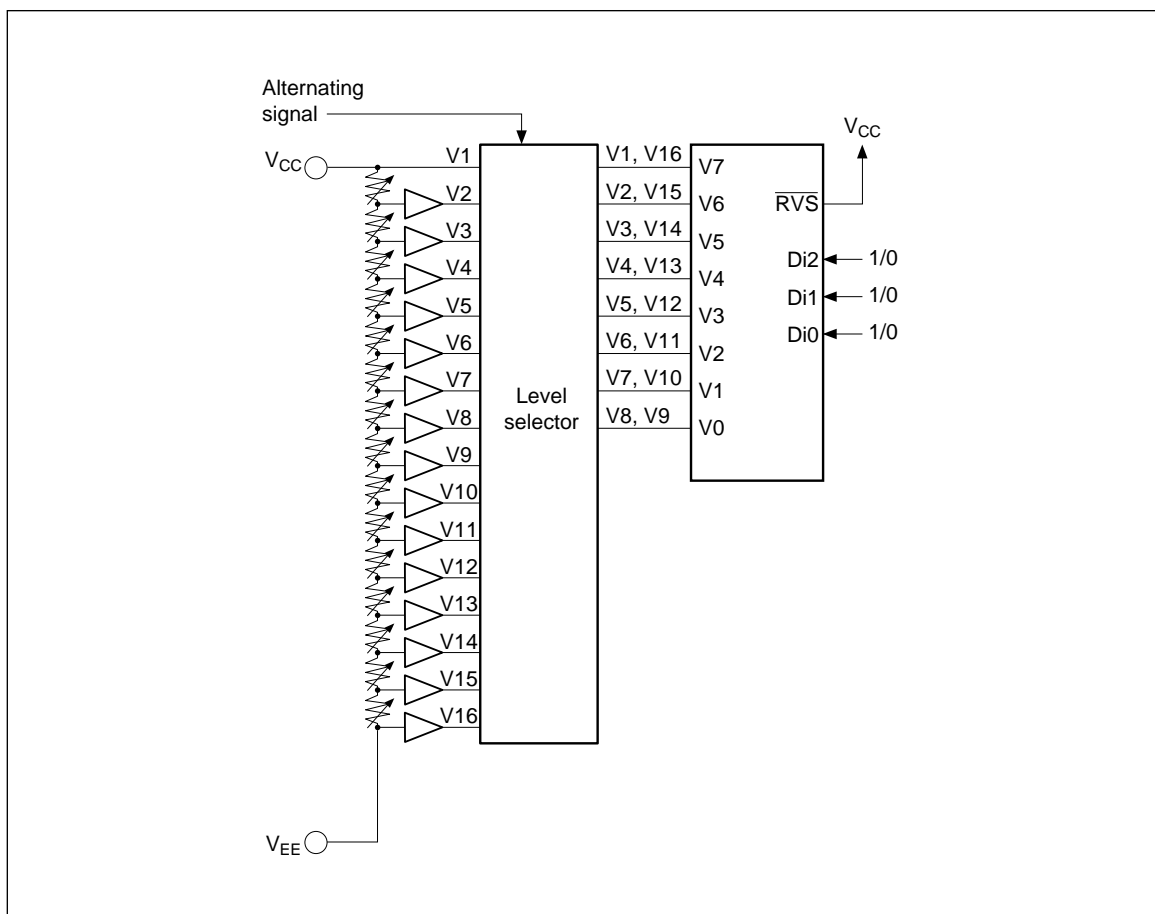
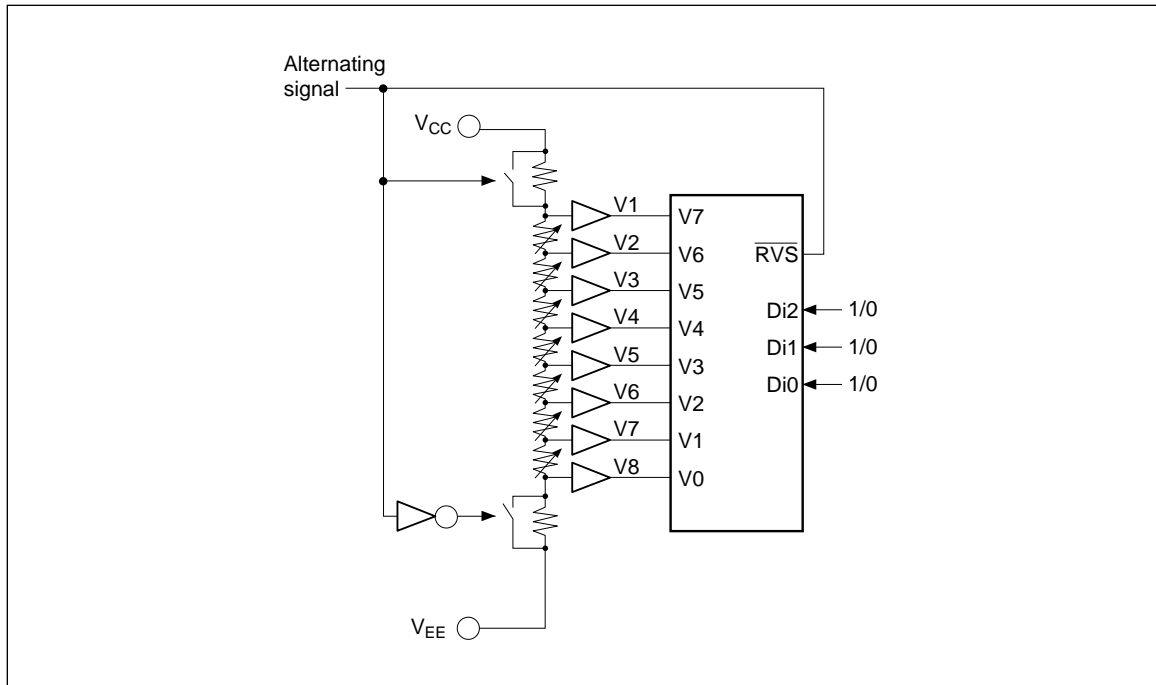
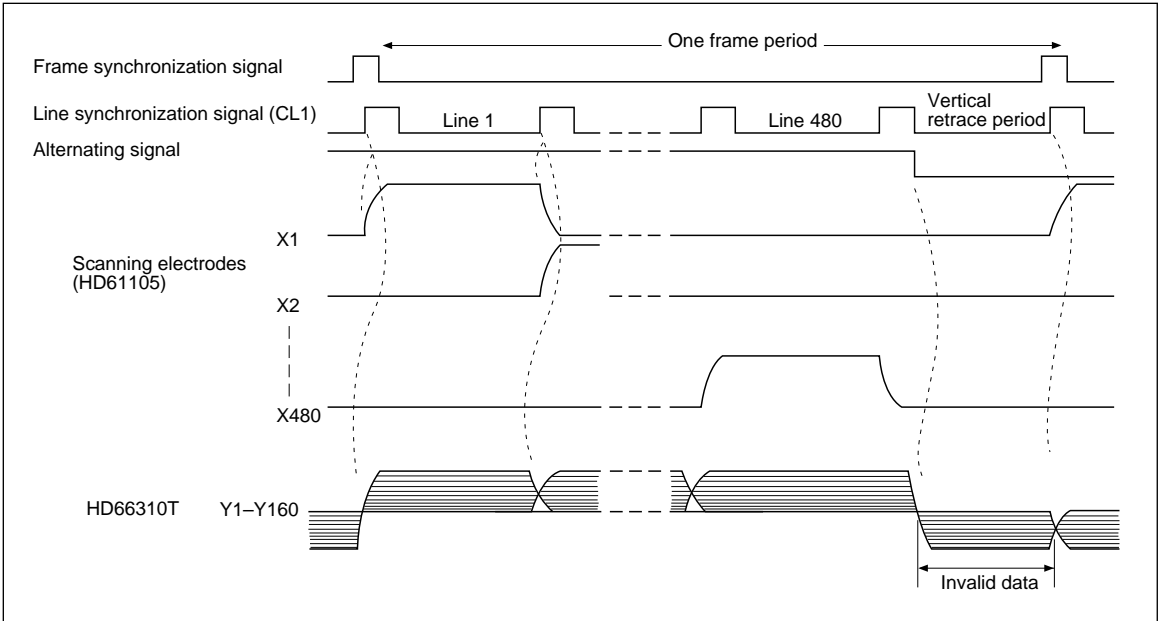

Figure 8 External Power Supply Example 1
Figure 9 External Power Supply Example 2
Figure 12 Vertical Retrace Period
Although the HD66310 has eight LCD driving voltage input levels, it can output 16 driving voltage levels using the level selector shown in figure 8, since the transfer gates of the output circuit are produced by the CMOS structure.
Figures 8 and 9 show the external power supply circuit when displaying 512 colors in the Triad
The circuit shown in figure 8 is the basic one used when displaying 512 colors in the Triad arrangement. However, the HD66310 can dispense with the level selector, as shown in figure 9, using the internal \overline{RVS} (output reverse) pin. See table 1 for detailed \overline{RVS} functions.
When using the RVS pins to simplify the power source, as shown in figures 9 and 10, it is recommended to add a vertical retrace period, (a scanning period in which no scan electrode is selected) at the end of a frame scanning period, as shown in figure 12, for the following two reasons.
11. However, the power supply lines immediately reverses polarity after a transition of the \overline{RVS} signal, as shown in figures 9 and 10. Therefore, the HD66310 outputs invalid data during the last CL1 of a frame period.
- In the power supply circuits shown in figures 9 and 10, voltage temporarily becomes unstable just after the \overline{RVS} transition, causing the LCD display to become jumbled.